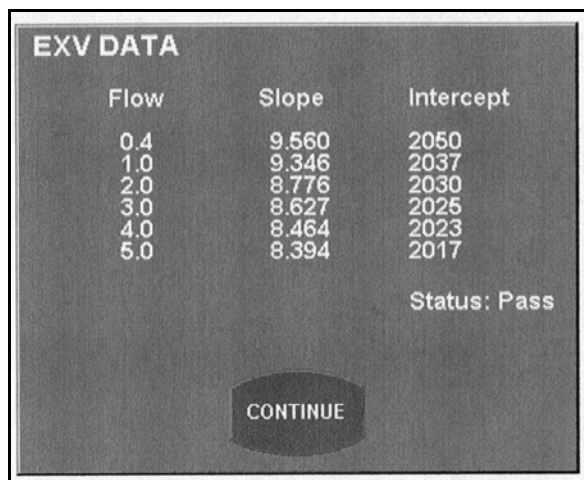

Figure 7.33
6. Once the EXV Characterization has passed Press Display EXV Data see (Figure 7.33).